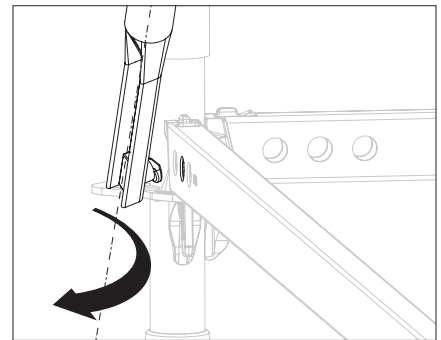

Fig. A4.07b
2. Screw the mounting finger into the hole of the lower horizontal ledger (**14a**). (Fig. A4.07b)